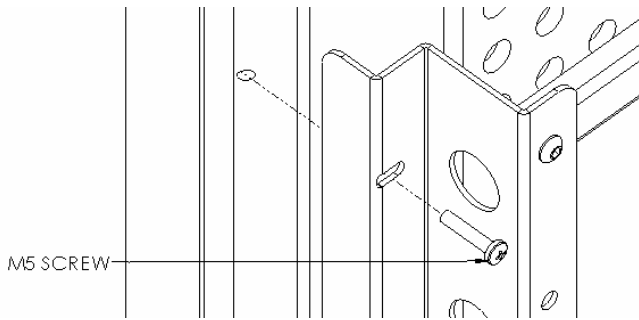
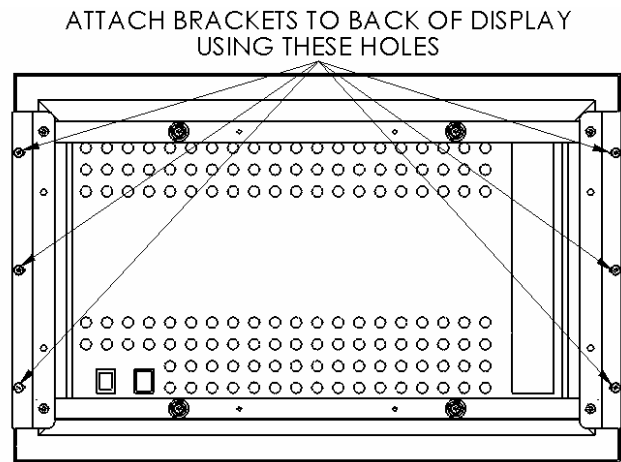

Figure 6
Figure 7
3. Using M5 screws, secure side brackets to display (see Figure 6 & Figure 7). Do not over tighten screws. The 1/4-20 button head cap screws attaching the side and center brackets may need to be loosened in order to line up holes on display. If this is done, please be sure to tighten them once again.